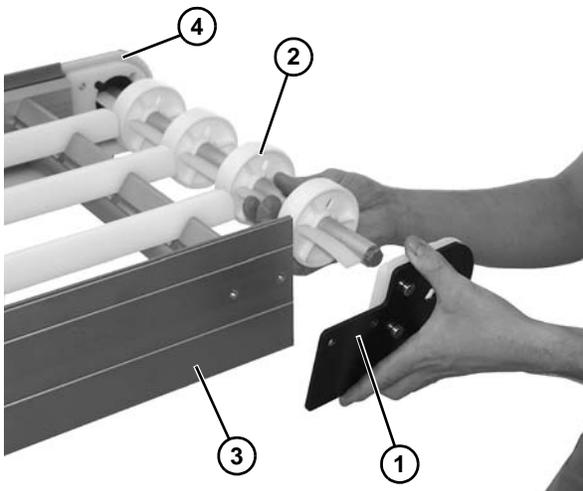

Figure 60
3. Remove end plate (Figure 60, item 1) and roller assembly (Figure 60, item 2) from conveyor frame (Figure 60, item 3) and opposite end plate (Figure 60, item 4).